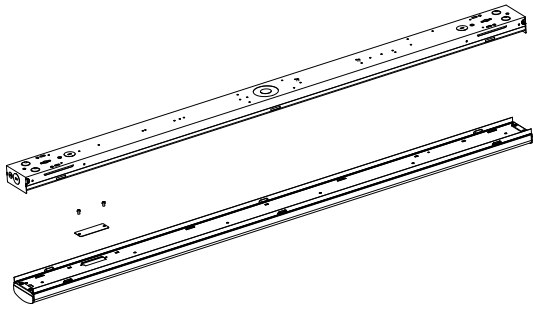

Figure 1
Step 1: Remove the sensor-hole plate before or after you install the fixture. (Figure 1)